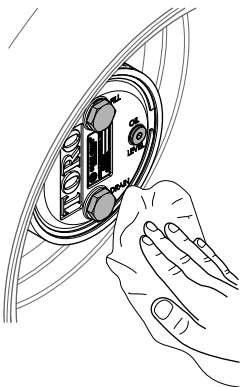

Figure 63
3. Wipe clean the planetary and brake housings (Figure 63).